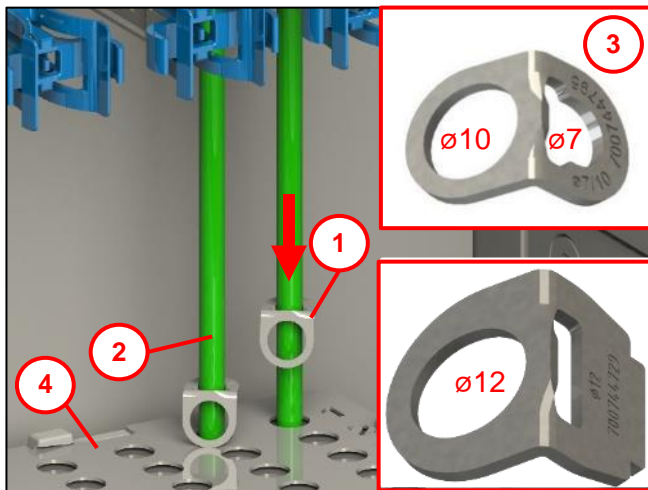

Fig. 16
**Note:** For reasons of space, the micro-duct pipes (3) ( $\varnothing 10 / \varnothing 12$ ) and micro-duct gas stops (2) must be graduated, see Fig. 16.